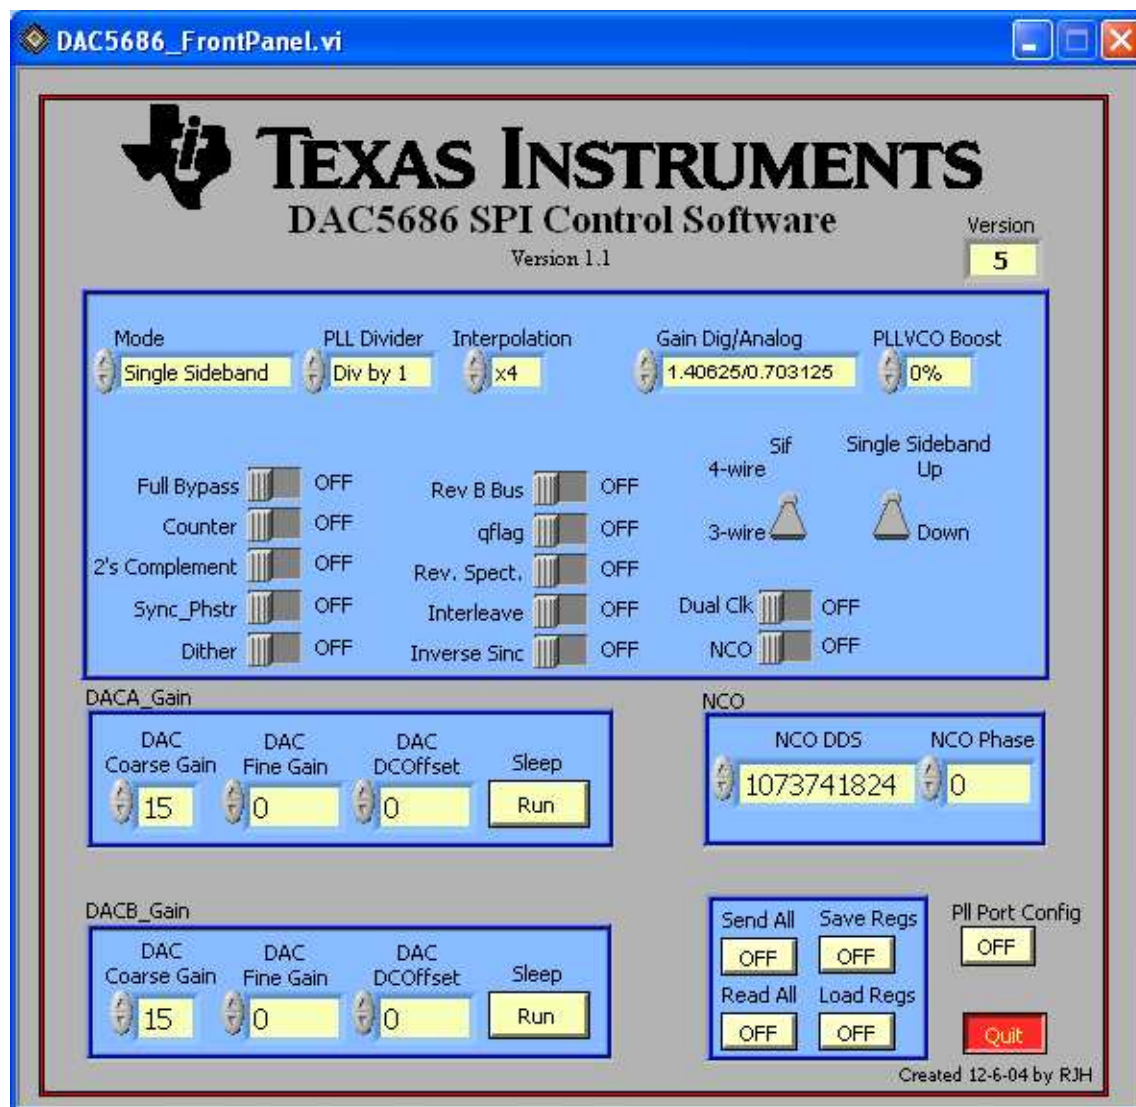

Figure 2. DAC5686 Setup for X4 Interpolation, Single Sideband Mode and Tone at $F_{dac}/4$
4. Turn "Full Bypass" off, change Interpolation to "x4", set Mode to "Single Sideband" and the Coarse Gain for both DACs to 15. The GUI should now look as shown in Figure 2.